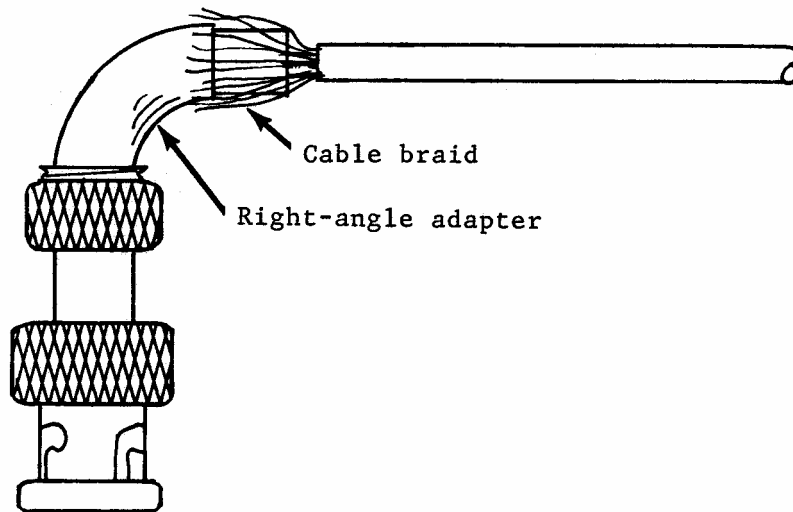

Figure 8-3. Cable Braid Pulled Forward Over Right-Angle Adapter
4. Dress the cable braid over the rear of the right-angle adapter (Figure 8-3).